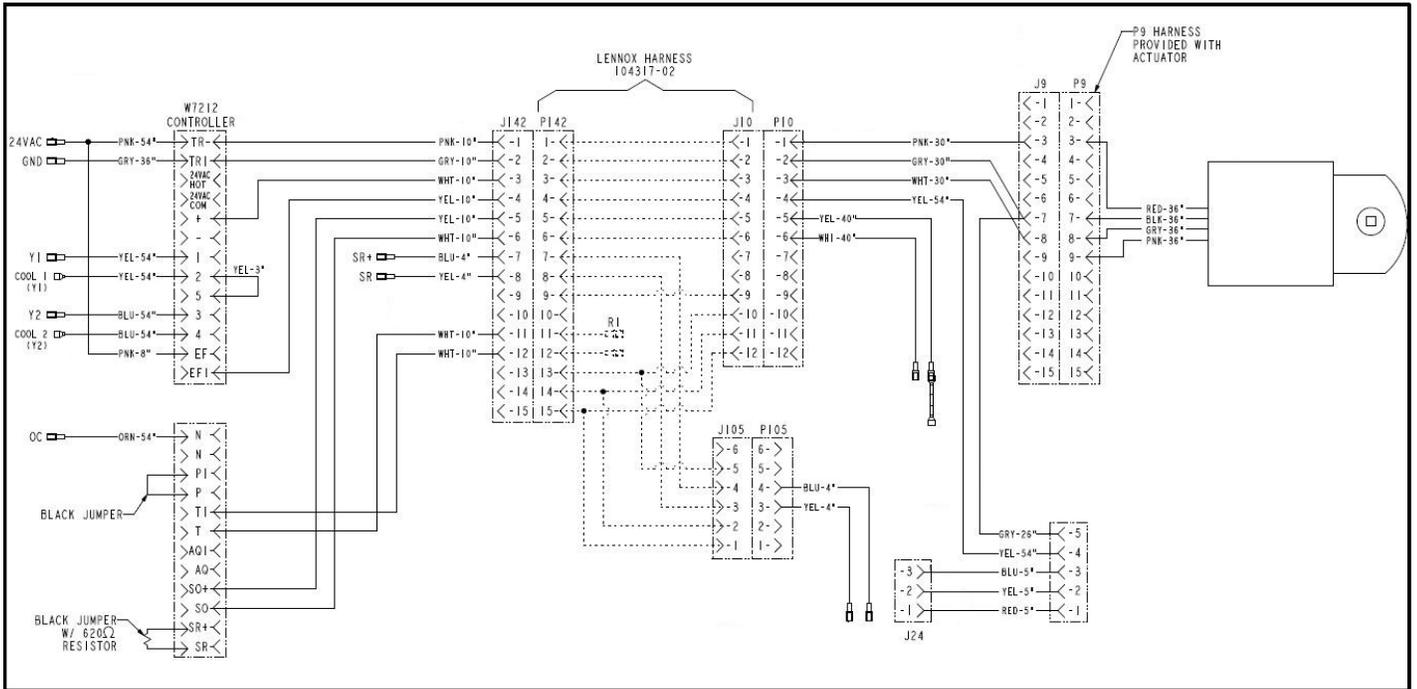

FIGURE 30
- 5- Connect any optional sensors as shown in Figure 30..
- 6- If optional power exhaust is used, wire according to instructions provided with power exhaust. See Figure 30.